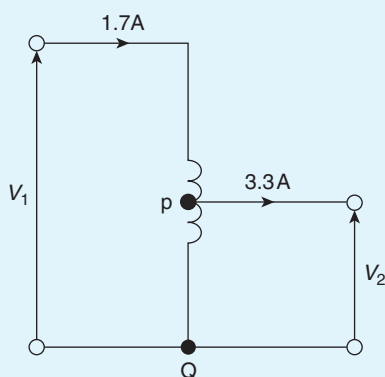

Figure 21.22
2. In the auto-transformer shown in Fig. 21.22, the current in section PQ is: